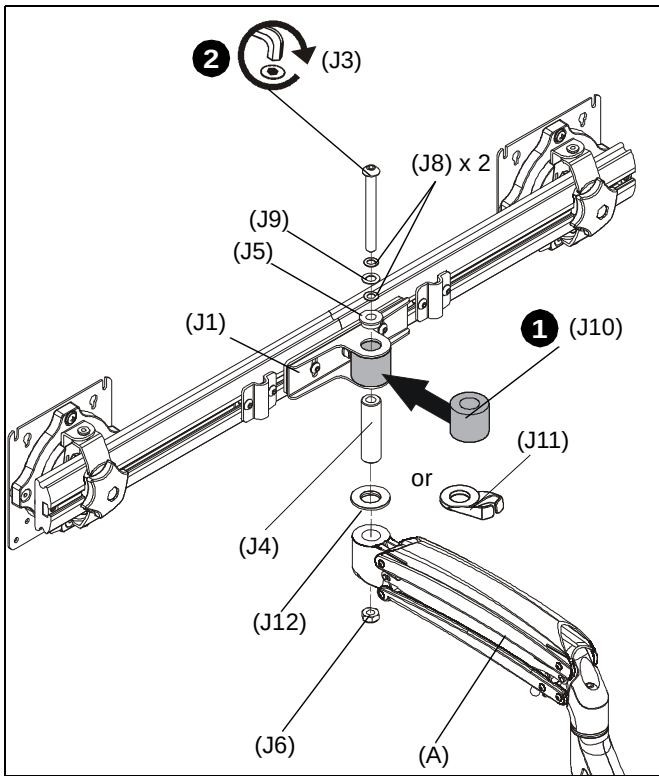

Figure 7
1. Slide rotational spacer (J10) into opening on array attachment bracket. (See Figure 7)
2. Use 5/16-18 x 3" button head cap screw (J3), two thin steel washers (J8), plastic spacer (J9), pocket washer (J5), pivot pin (J4), pivot point spacer (J12) and 5/16-18 lock nut (J6) to secure array (J1) to K1 arm (A). (See Figure 7)
NOTE: Cable clip (J11) can be used in place of pivot point spacer (J12) if additional cable management is desired. (See Figure 7)